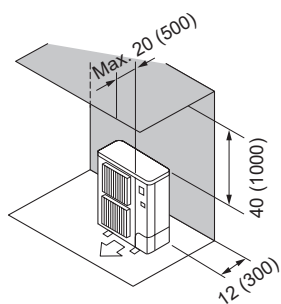

Fig. 2-6
- ② Obstacles at rear and above (Fig. 2-6)